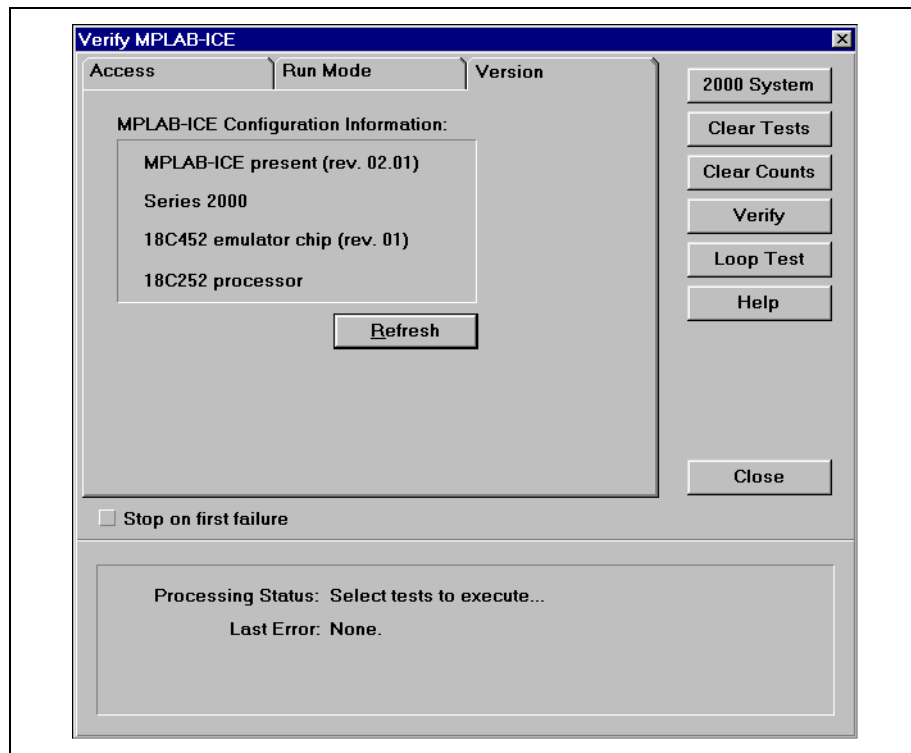

Figure 7.4: Verify MPLAB ICE – Version Information
- Version – Shows MPLAB ICE configuration information (Figure 7.4).